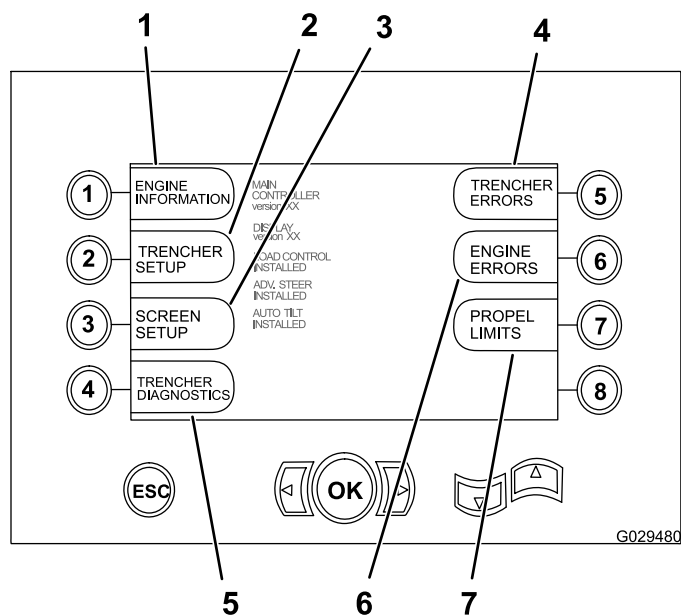

Figure 36
To access the main-selection screen, press and release the up arrow and the down arrow buttons (Figure 36) at the same time. This screen allows the user to choose from the function screens shown in Figure 36.
1. From the main-selection screen, press button number 7 access the settings for the propel limit function; refer to Figure 36 in Accessing the Main-Selection Screen (page 31).